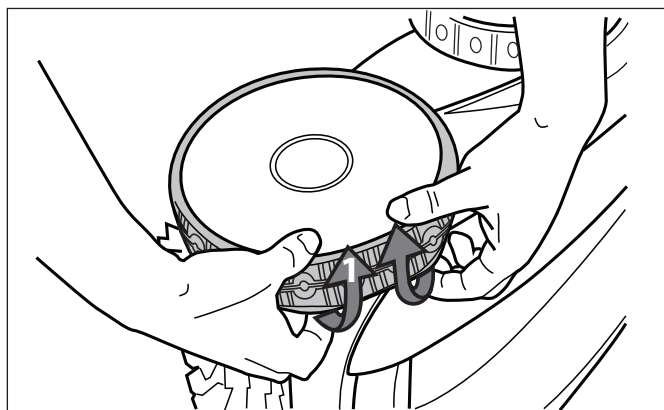

Figure 38. Pull the Old Tyre Over the Wheel
1. Pull on the inside of the old tyre to remove the tyre lip from the wheel (Figure 38).